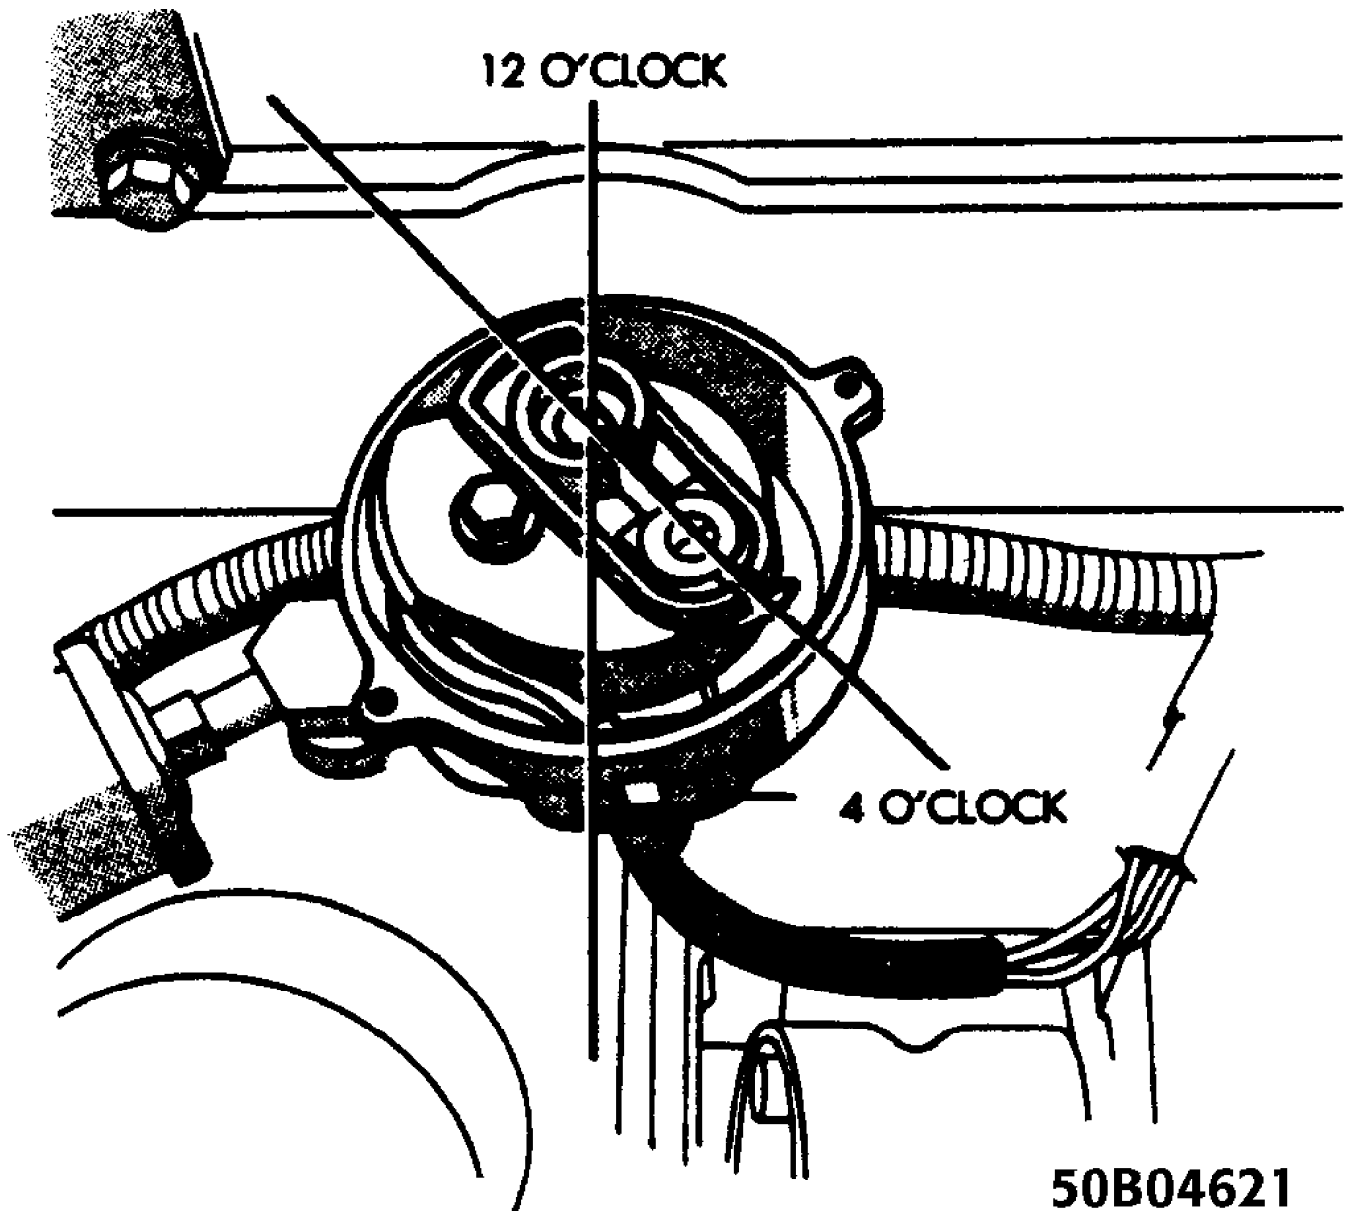

Fig. 28: Installing & Aligning Rotor
5) Turn the rotor to the 4 o'clock position. See Fig. 28.